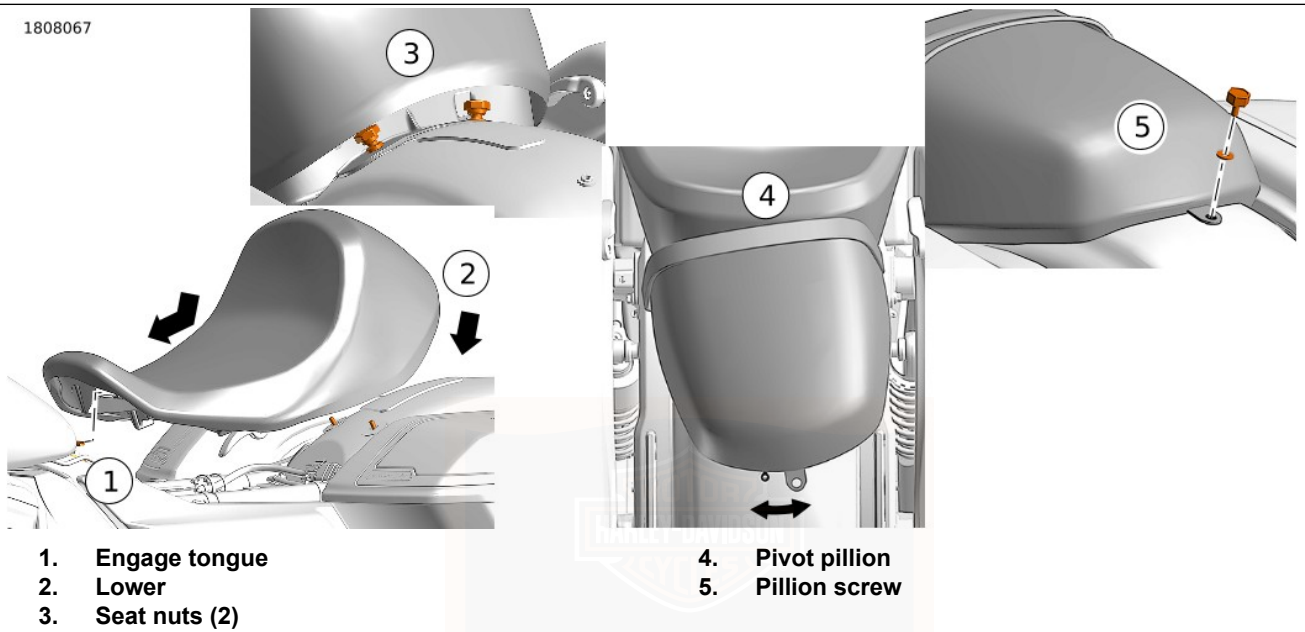

Figure 125. Seat and Pillion
1. See Figure 125. Slide seat forward to engage the tongue on the frame into the slot in the seat (1). Lower the rear of the seat onto the seat mounting studs (2).
2. Install seat nuts (3). Tighten. 0.9–1.7 N·m (8.0–15.0 **in-lbs**)